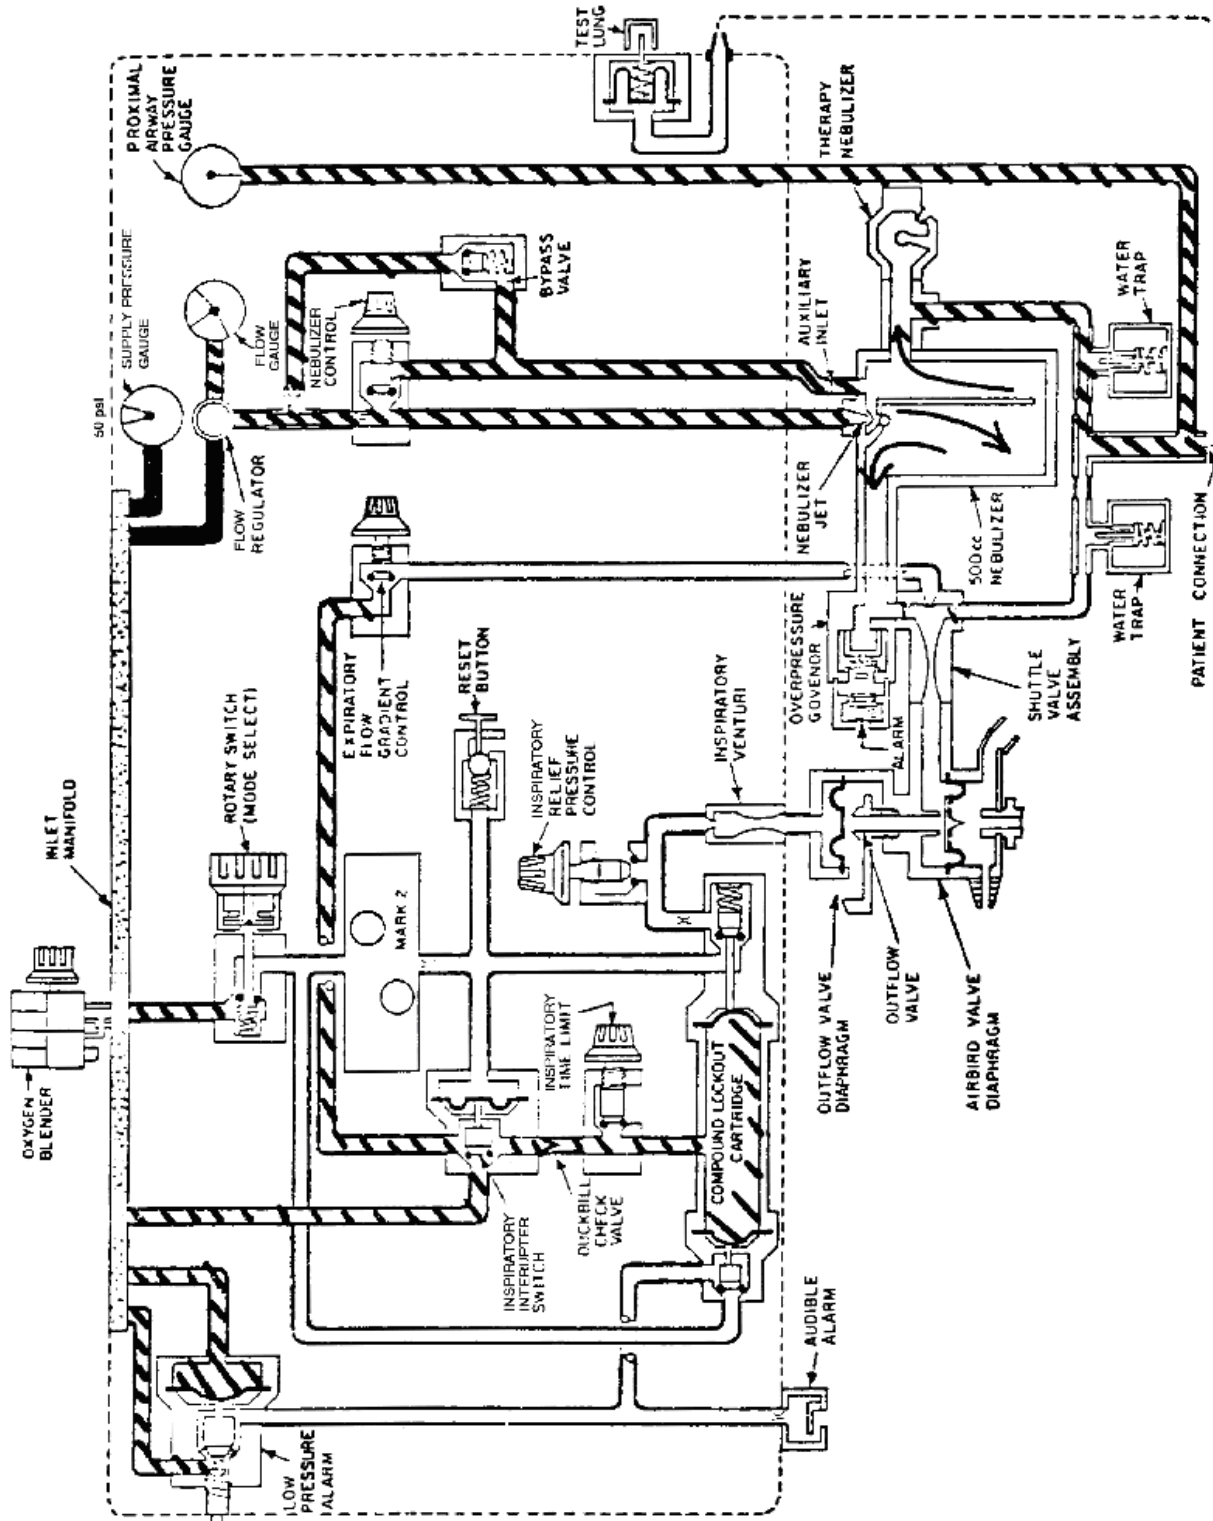

Figure 1-12. Inhalation phase of the spontaneous mode.
a. During the inspiratory phase of the spontaneous breathing mode (figure 1-12) a constant flow of gas is provided from the inlet manifold to the pressure gauge and to the flow regulator. The flow gauge indicates the flow of gases in lpm before delivery to the patient airway. As gas leaves the flow regulator, it flows in two paths: one is directed to the nebulization control and the other to the by-pass valve.